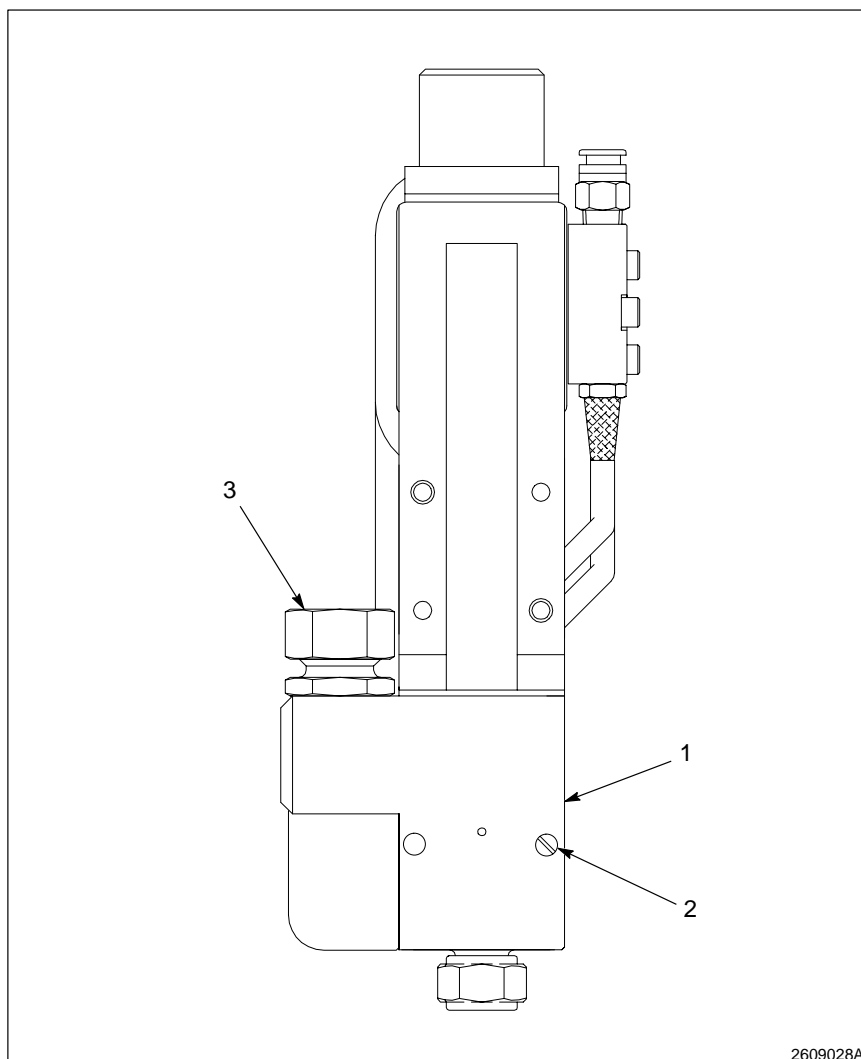

Fig. 6-14 Heater
2. See Figure 6-14. Align the heater (1) on the trimset valve and tighten the screws (2).